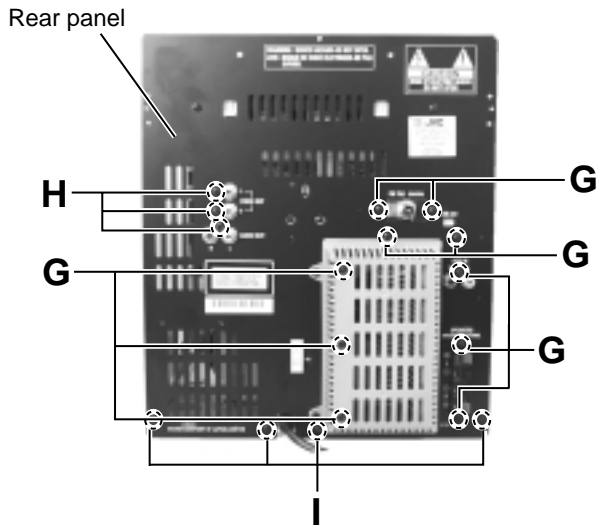

Fig.17
**■ Removing the rear panel (See Fig.17)**